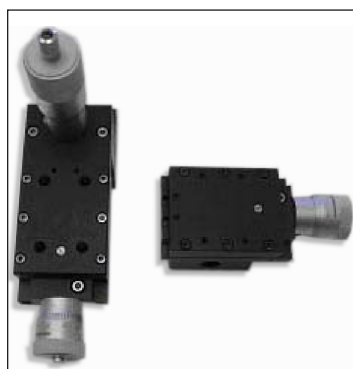

*Fig. 9—Position right-handed micromanipulator to expose the four hex screws*
1. Position the manipulator with the “Y” axis adjustment on the left, and “Z” axis adjustment facing toward you (**Fig. 9**).
2. Use the “Z” axis adjustment knob to align the access holes with the (4) screws that fasten the “Y” axis subassembly to the main unit (**Fig. 9**).
3. Using a 2.5mm hex wrench (WPI #**3327**), loosen and remove the (4) screws shown in **Fig. 9**. The manipulator disassembles into in two parts (**Fig. 10**).